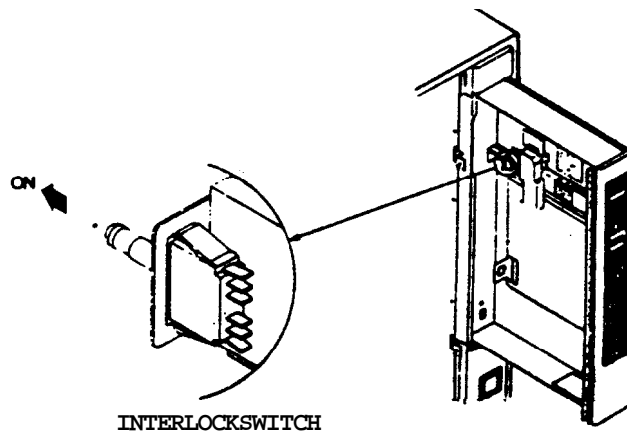

FIGURE 4
- \* Check to ensure that power is present. ‘Remember when you pull out the sliding drawer, the safety interlock will shut off the power to the control board. To re-energize the control board, pull the plunger out on the safety interlock switch located at the back of the pull out drawer. For the location of safety interlock (See figure 4 on page 10).
- \* Operate each dispenser, using coins. Operation should be smooth. Remember; the safety interlock must be energized in order to test out the changer. To energize, pull out the plunger on the safety interlock switch located at the back of the pull out drawer (See figure 4 on page 10).
Note: The safety interlock switch that turns on the power to the drawer is located in the rear, as shown in figure 4.